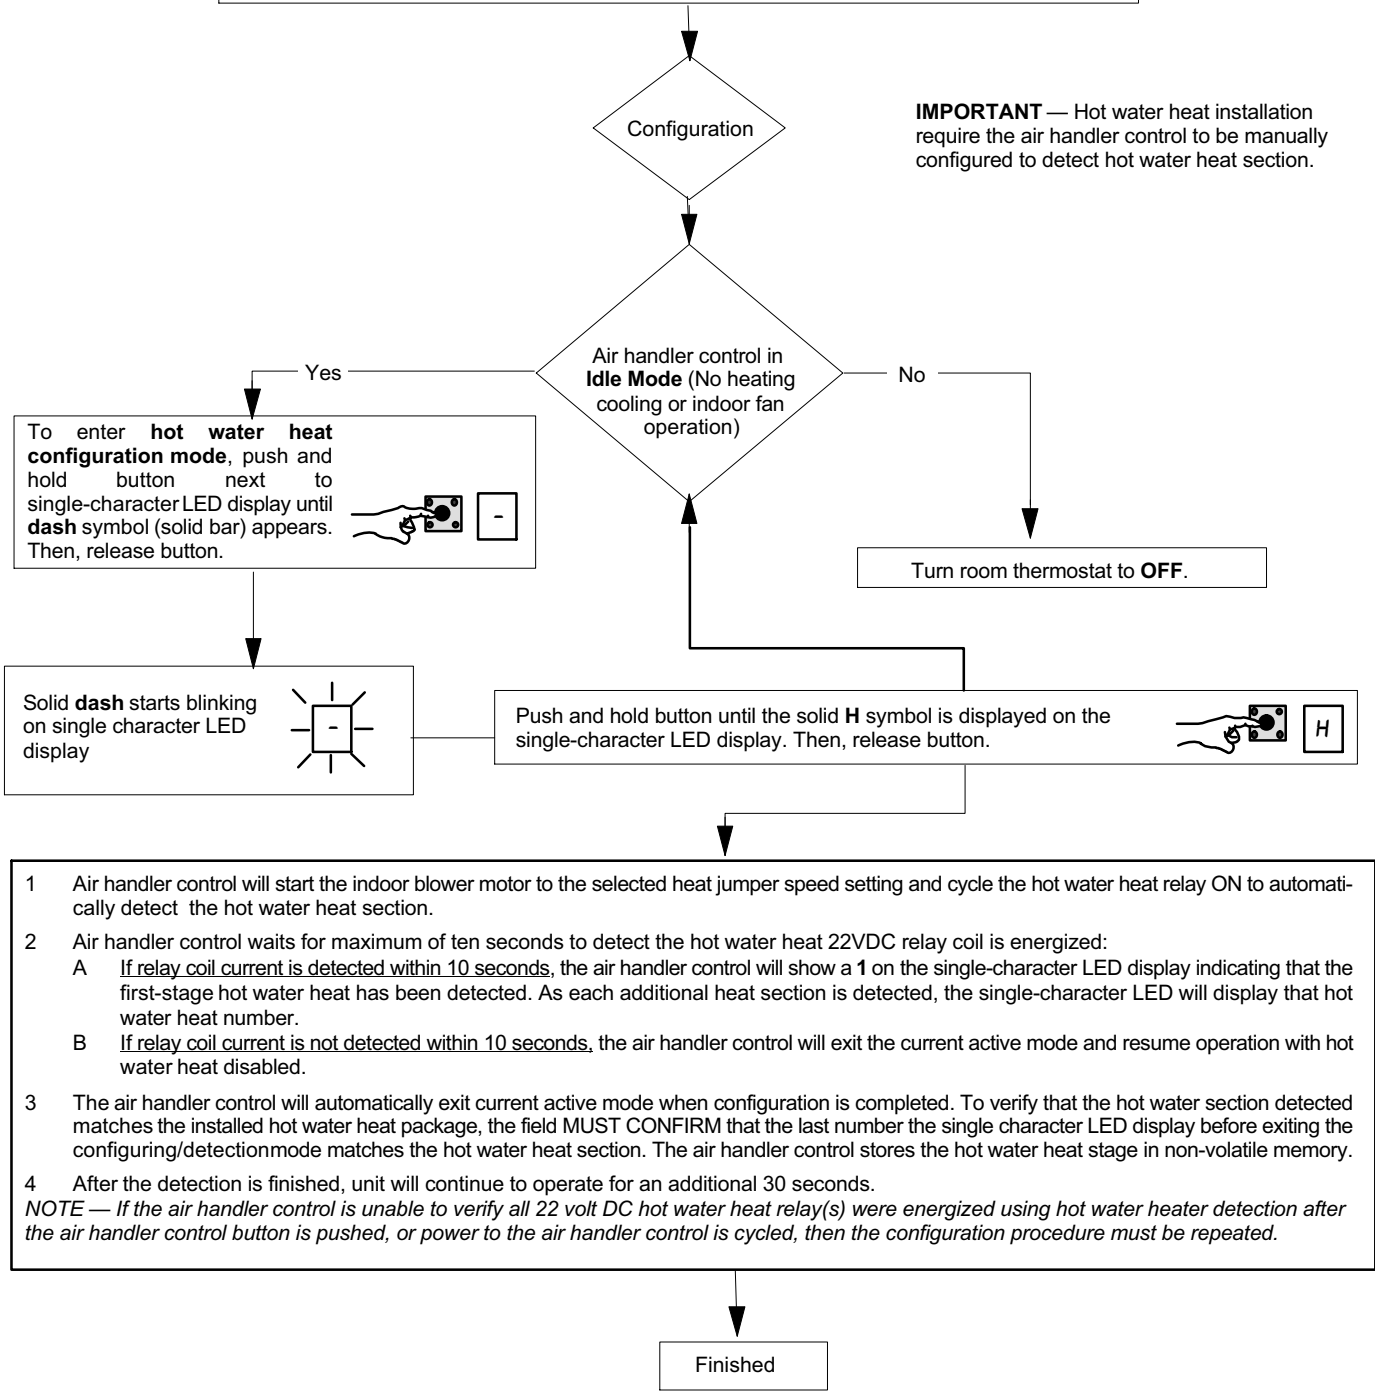

Figure 7. Heat Discovery Mode
- Heat pump with hot water heat (see figure 7).
In applications with condensing units, configure ComfortSense® 7000 for hot water heat (see figure 7).
In icomfort™-enabled systems, see figure 7 for heat discovery procedures and the icomfort™ thermostat installer guide to configure the thermostat.